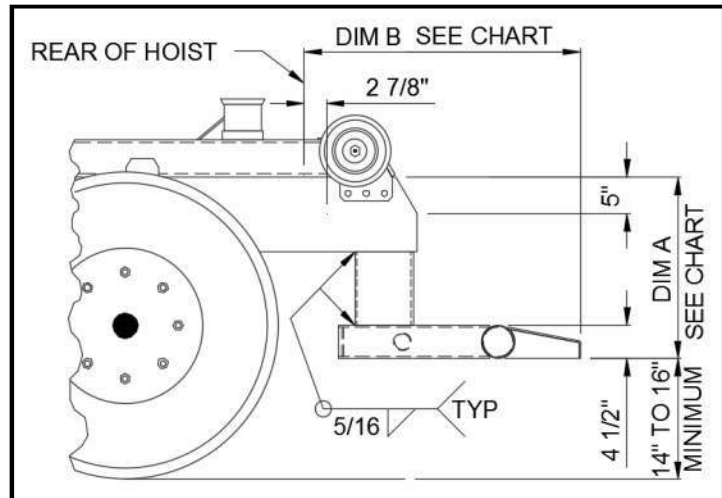
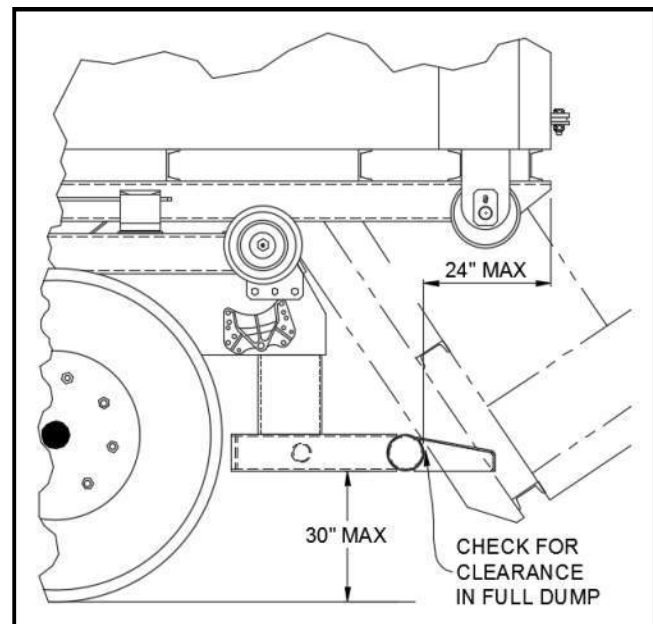

Figure 1
Figure 2
2. Trim truck frame to indicated dimensions (See Figure 1). These dimensions will facilitate the mounting of the rear light assembly if it is also being mounted.
3. Measure the distance from the bottom of the truck frame to the ground (NOTE: This should be performed on a level surface). Based on this measurement and the dimensions in Figure 1, the vertical channel [Part No. 63H94] may need to be modified in length to meet the Office of Motor Carrier Safety (OMCS) regulations. Regulation 393.86 requires that no bumper be located more than 30" off the ground when the truck is empty, and the end of the bumper should not be located more than 24" from the extreme rear of the vehicle, including truck bodies (See Figure 2). Once the length has been determined for the vertical channels, weld them to the truck frame (See additional notes on the next page).
4. Center the bumper weldment [Part No. 52H12] with factory installed extensions Part No. 52H13] on the vertical channels [Part No. 63H94]. Position rear of bumper from rear of the hoist as indicated by the bumper location chart. This is crucial in order to ensure that the container longsills do not contact the bumper during the dump cycle (See Figures 1 & 2).
5. Weld the bumper weldment to the vertical channels (See Figure 1 & 3).